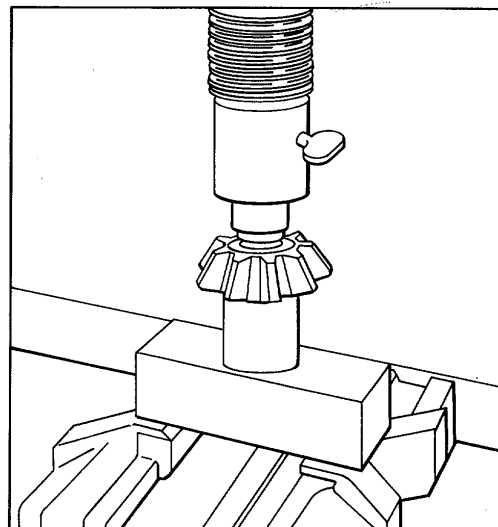

Figure 10.
c. Place pinion on anvil. Position bushing in inner end of pinion bore and press squarely into position. Use adaptor with correct size offset to fit bushing (refer to Fig. 10).